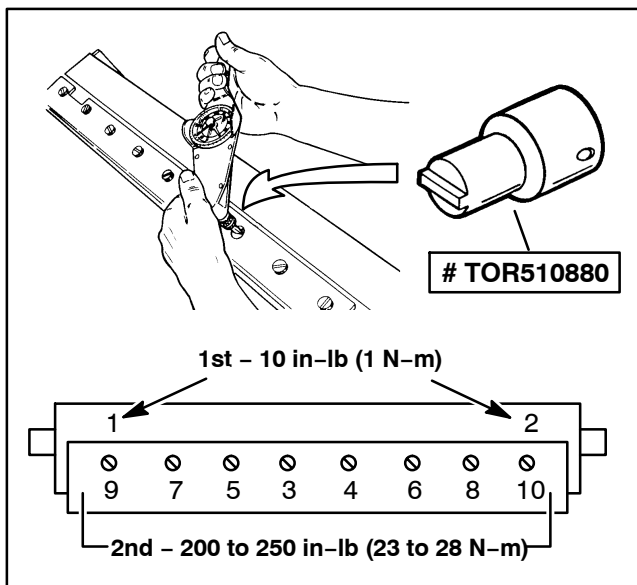

Figure 26
6. Working from the center of the bedknife toward each end (Fig. 26), tighten screws from **200 to 250 in-lb (23 to 28 N-m)**.